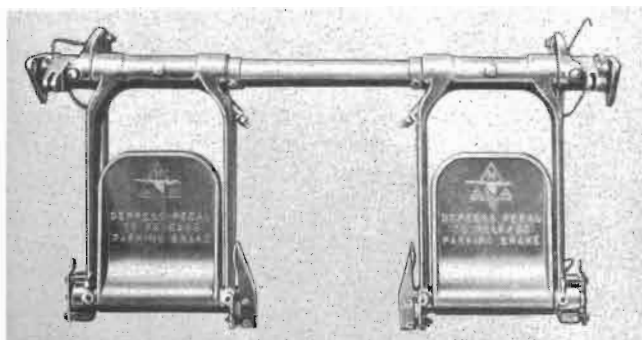

Figure 180 — Rudder Pedal Assembly
(2) RUDDER PEDALS.—(See figure 180.)—Rudder control is obtained by rudder pedals located in the conventional position in each cockpit. They are connected with the rudder by cables. The steerable tail wheel cables are interconnected with the rudder cables by idler arms in the rear of the fuselage. The front and rear rudder pedal assemblies obtain a common balance through a rudder balance cable which, passing around two pulleys, connects both pedals of the rear